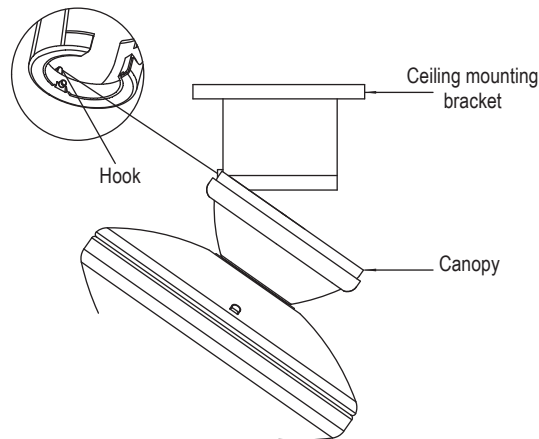

Fig. 9
Step 3. Remove three of the six screws and lock washers (every other one) from the collar of top motor (Fig. 9)
Step 4. Place the ceiling canopy with decoration ring and the gasket over the collar at the top of the motor. Align the mounting holes with the holes in the motor and fasten using the screws and lock washers provided. (Fig. 9)
Step 5. Tighten the mounting screws securely. (Fig. 9)